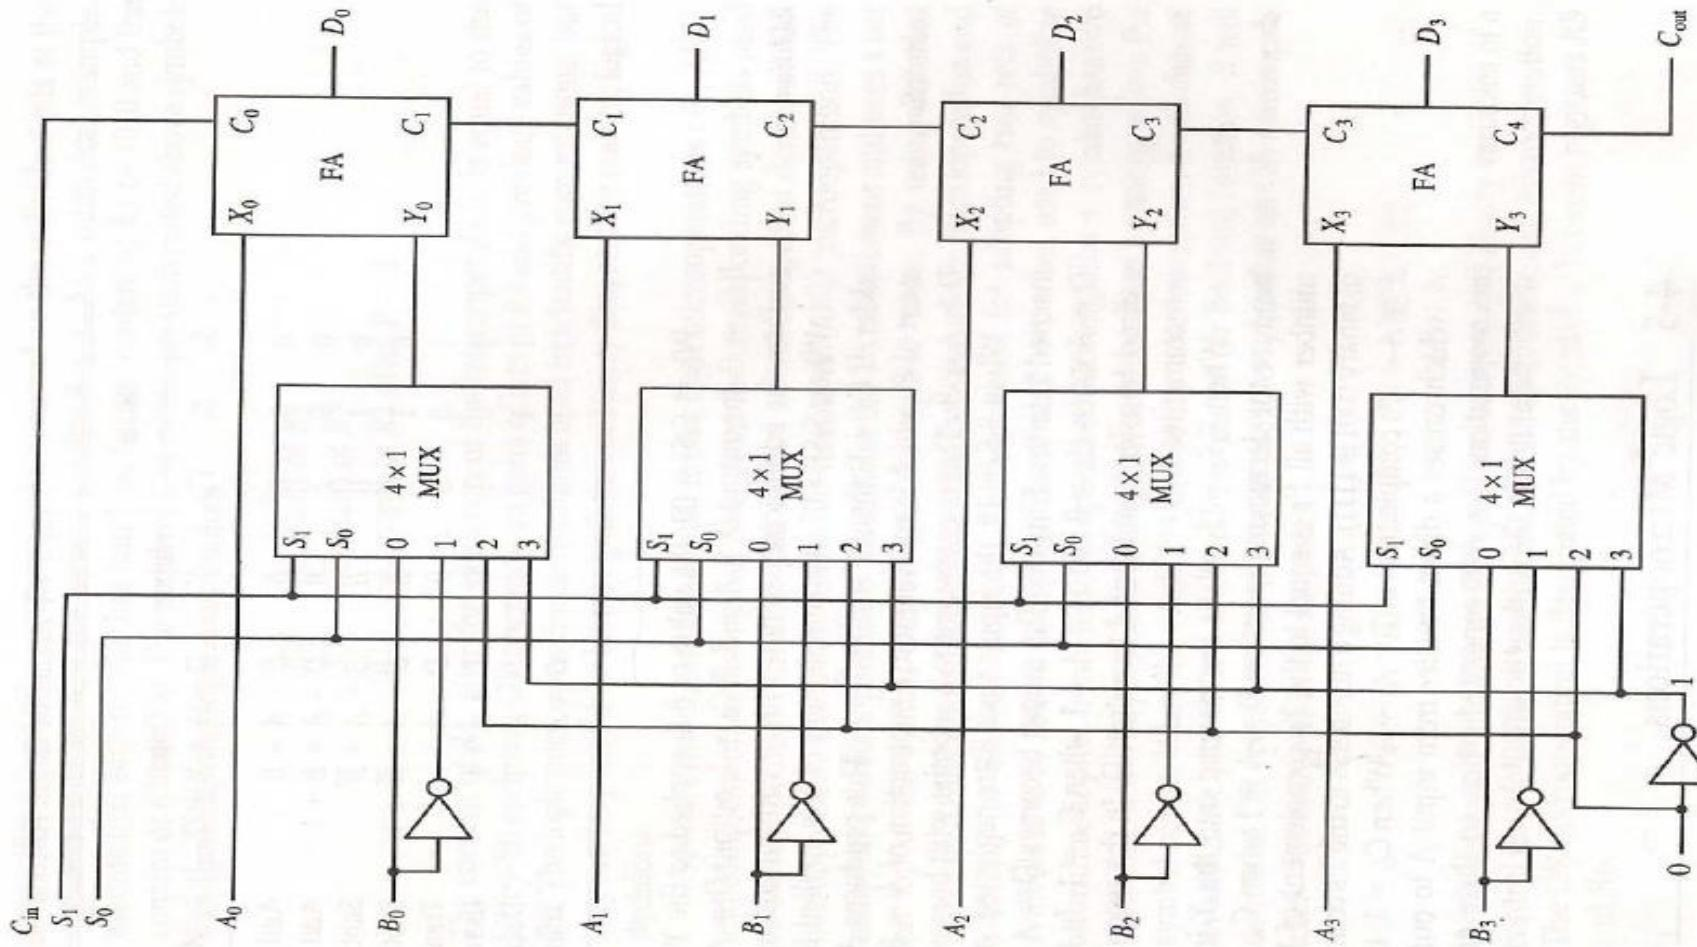

Figure 4-9 4-bit arithmetic circuit.
- 4-14. Assume that the 4-bit arithmetic circuit of Fig. 4-9 is enclosed in one IC package. Show the connections among two such ICs to form an 8-bit arithmetic circuit.